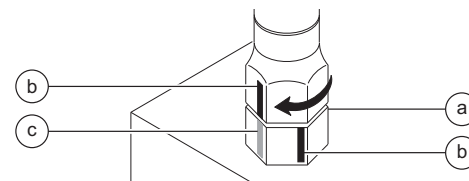

Figure 2
- 3 Working clockwise on the body hex fitting, make a second mark with a permanent ink marker to indicate the proper tightening position. Refer to Figure 2.